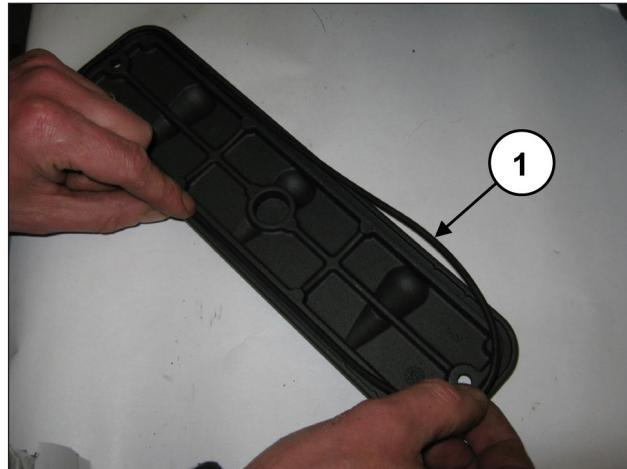
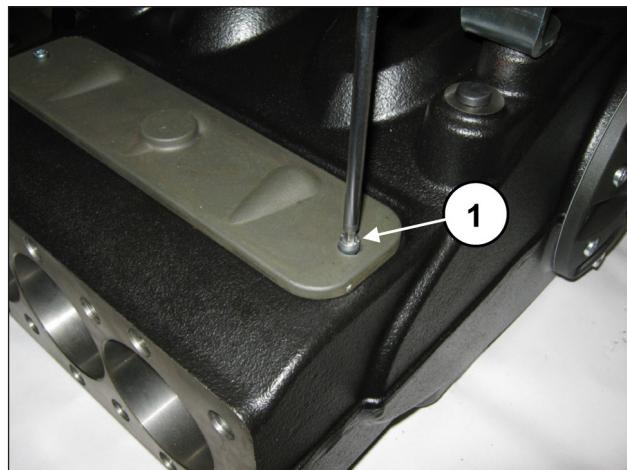

Fig. 191
Fig. 192
On the inspection covers insert the O-ring (pos. ①, Fig. 191) and assemble the covers with the use of 2 M6x14 screws (pos. ①, Fig. 192) and 2 M6x40 screws.